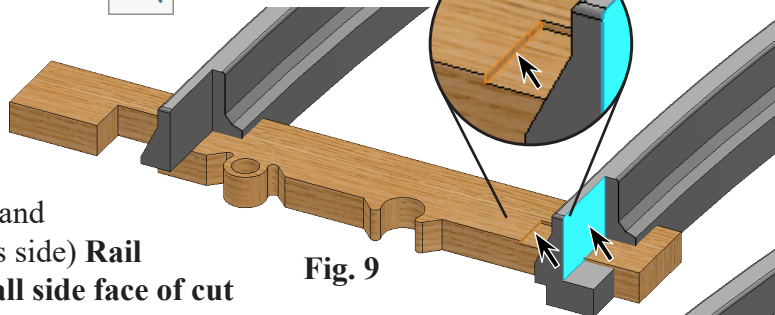

Fig. 9
Step 6. Click **side face of cut** in left hand (driver's side) **Rail** and **small side face of cut** in **End Tie**, **Fig. 9**.